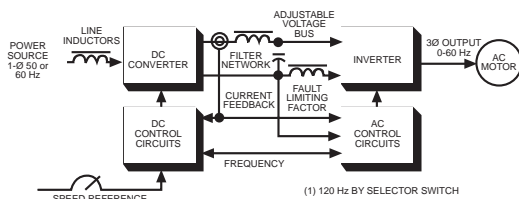

FIGURE 7.
**Six Step Controllers** – Six-Step controllers, so called due to their output voltage waveform, utilize an adjustable voltage, linkcoupled inverter system as shown in Figure 7.